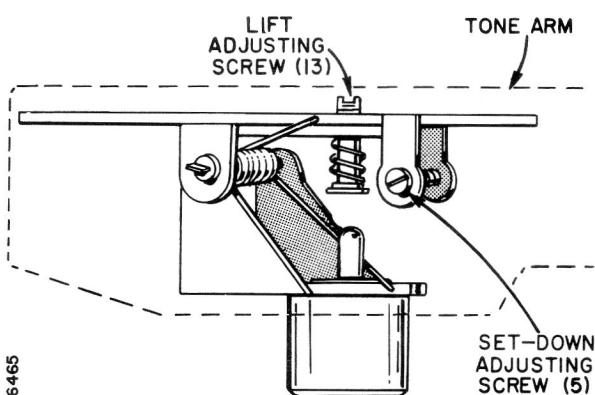

Figure 5. Set-Down and Lift Adjustments.
The set-down adjustment may be made while the changer is in its compartment or cabinet. Adjustment of the set-down point is made by adjusting the set-down adjusting screw (5). See figure 5. The tone arm will automatically set down properly on 7-inch or 12-inch records if the set-
to pass above a stack of 12 standard 10", 78 RPM records on the turntable, turn the lift adjusting screw clockwise. See figures 5 and 6.
When the changer is in change cycle, the top surface of the tone arm head must be approximately 3/16 to 1/4 inch beneath the bottom record resting on the centerpost shelf. See figures 5 and 6.